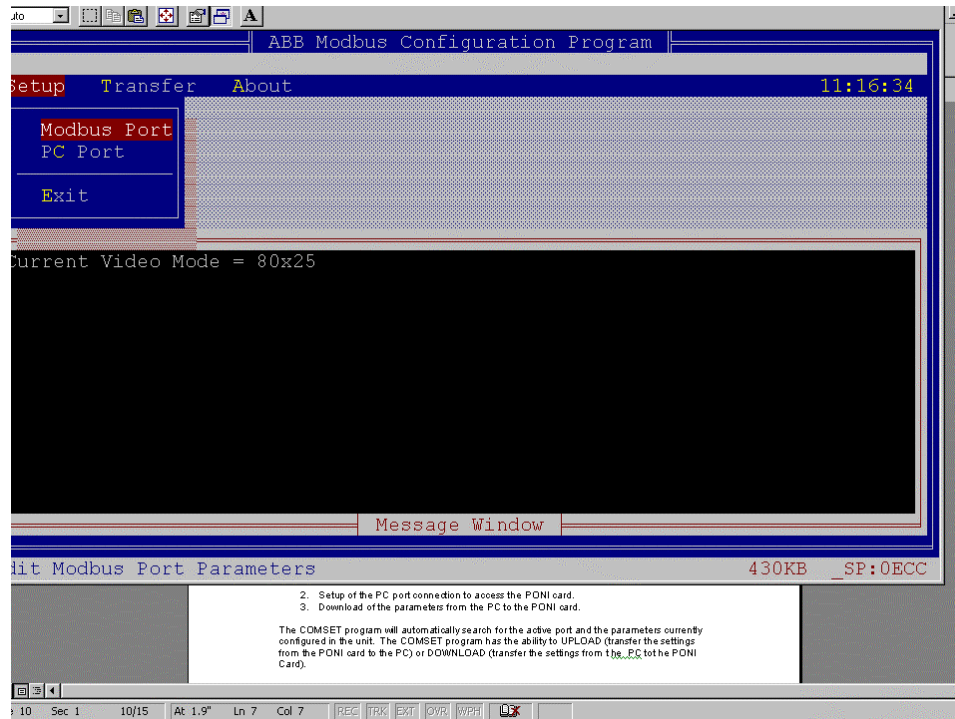
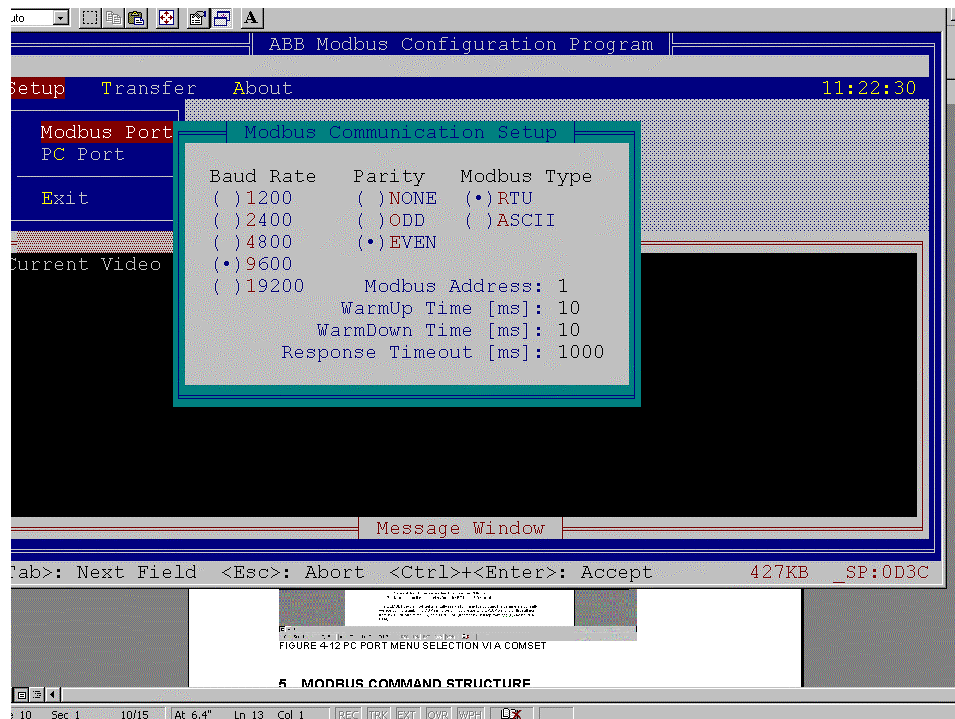
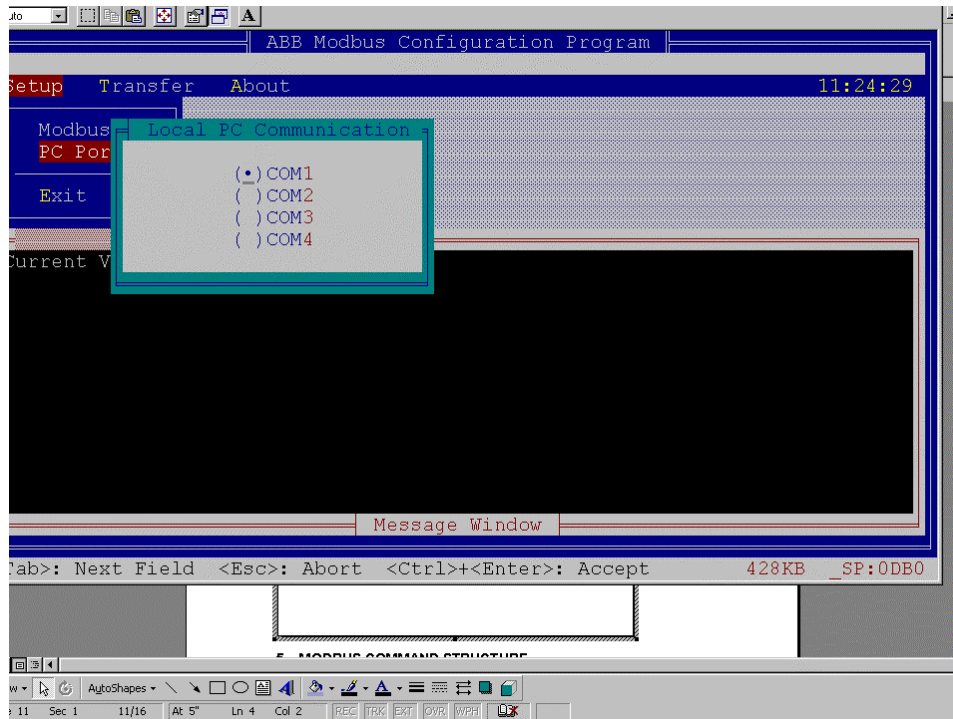

Figure 4 - PC Port Menu Selection VIA Comset
Figure 5 – MODBUS PONI –M Configuration Menu Presentation
Figure 6 - MODBUS PONI –M PC PORT Configuration Screen Presentation
The COMSET program will automatically search for the active port and the parameters currently configured in the unit. The COMSET program has the ability to UPLOAD (transfer the settings from the PONI card to the PC) or DOWNLOAD (transfer the settings from the PC to the PONI Card). The user must select the SETUP menu item. The screen presented to the user is shown in Figure 4. Menu settings for the PC port to communicate with the MODBUS PONI [PONI-M] are shown in Figure 5. Menu settings for configuration of the MODBUS PONI card port settings are shown in Figure 6.
11. With the "SETUP" parameter highlighted, select the ProtConv Modbus Setup submenu selection, until the following screen is displayed. The parameters listed in Figure 5 match those in the protective device configuration (Step 7). After selection of all parameters, simultaneously depress the "CONTROL and ENTER" key on the configuration terminal's keyboard.
- With the "SETUP" parameter highlighted, select the PROTCNV CONITEL Setup submenu selection, until the following screen is displayed. The parameters listed in Figure 6 match those in the CONITEL Host. After selection of all parameters, simultaneously depress the "CONTROL and ENTER" key on the configuration terminal's keyboard.